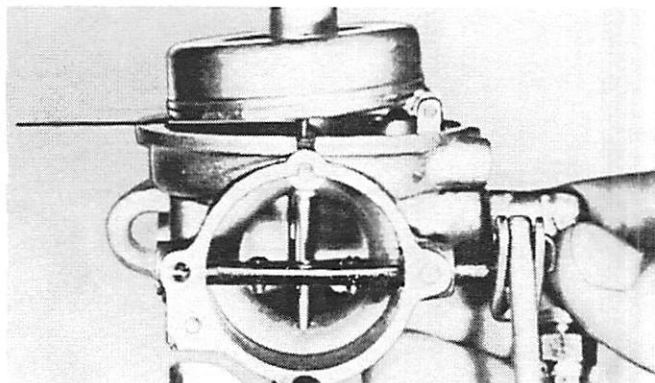

Figure 8. Adjusting Carburetor Float Level, Mark 55H
5. Set float level with carburetor casting inverted, float resting lightly against needle in its seat. There should be $3/32$ " clearance on Mark 20H (no clearance on Mark 55H) between outer surface of casting and free end of float (side opposite needle seat). Adjust by bending lip of float. (Figure 8)
The first production Mark 55H motors have the carburetor float level set at $3/32''$ clearance between the outer surface of the carburetor casting and free end of float (side opposite needle and seat). In rough water, however, the carburetor functions better with the float set tangent (in line) with the edge of the float bowl cover. Reset float level with carburetor casting inverted and lip of float lever resting lightly against inlet needle. (Figure 8) There should be no clearance between outer surface of float bowl cover and free end of float. Sight across bowl cover for correct setting. Adjust by bending lip.